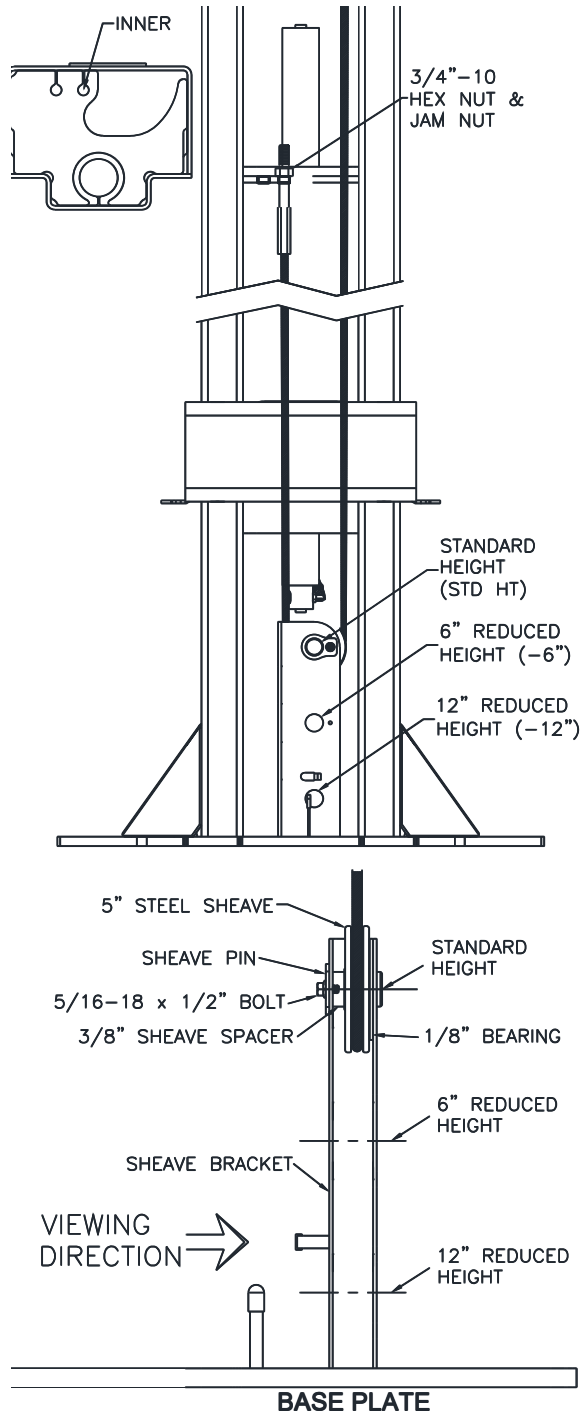

Fig. 2 – Cable Routing
- Manually push carriages up enough to unhook the cylinder hose from the base plate tabs. Proceed with pushing the cylinder and carriage up enough to access all three sheave locations on the sheave bracket, see **Fig 2**.
- 5) Determine the sheave location on the bracket based on Column Extension Height, see Fig 2.
- 6) Remove the bolt, sheave pin, sheave, spacer, and bushing, Fig. 2, to allow the cable to be installed.
- 7) Route a cable through a carriage and out the bottom. Route it back up and into the inside hole at the top of the carriage, see Fig 2. **Ensure cables do not twist or wrap around hoses during routing.**
- 8) Place the 1/8" spacer inside the bracket centered over the bracket hole based on the chosen install height. Install the cable on the sheave and slide into place. Stack the 3/8" spacer onto the sheave assembly. Still holding the sheave assembly, slide the pin into place. Install the bolt to secure the pin, see Fig 2.